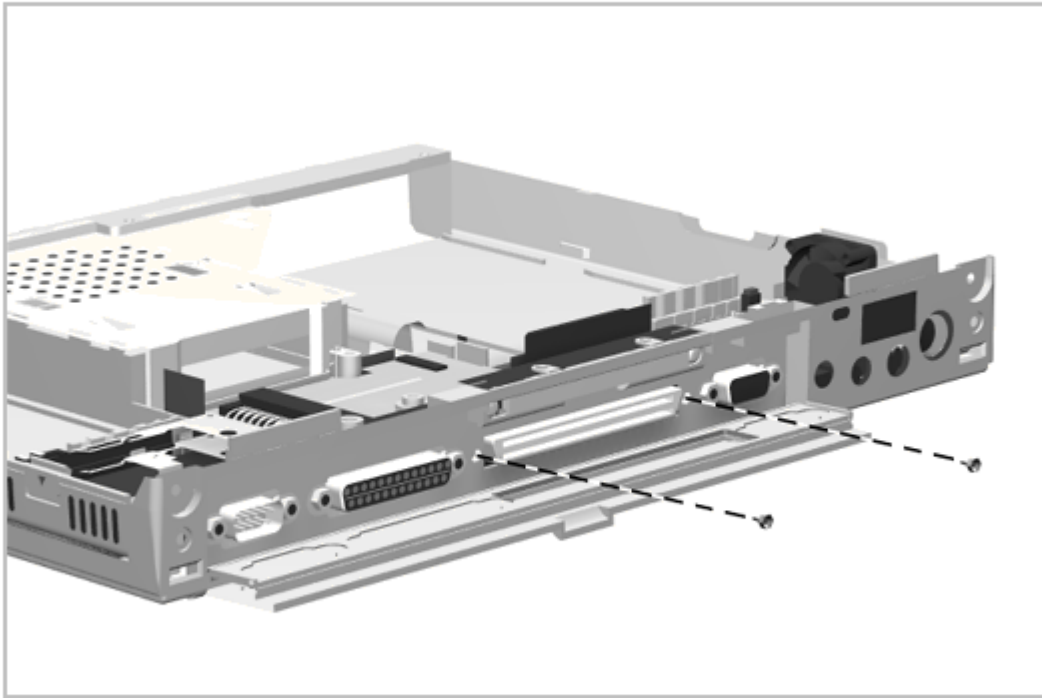

Figure 5-58. Removing the System Board Screwlocks
8. Remove the two screwlocks from the option connector on the rear of the computer (Figure 5-58).